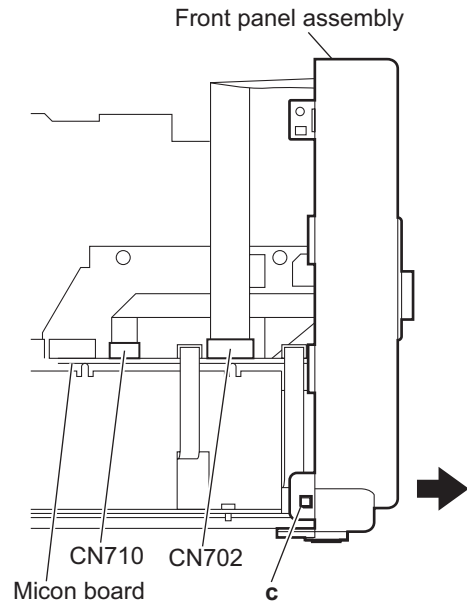

Fig.6
3.1.4 Removing the front panel assembly (See Figs.6 to 8)
- Remove the rear cover, side panels(L)/(R) and top cover assembly.
- From the left side of the main body, disconnect the card wires from the connectors (CN702, CN710) on the micon board. (See Fig.6.)
- From the both sides and bottom sides of the main body, release the joints c and joint d. (See Figs.6 to 8.)
- Remove the front panel assembly in the direction of the arrow. (See Figs.6 to 8.)